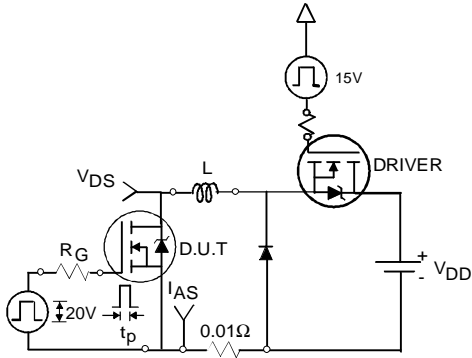

Fig 12a. Unclamped Inductive Test Circuit
| I _{AR} | Avalanche Current① | See Fig.12a, 12b, 14, 15 | A |
3. Equation below based on circuit and waveforms shown in Figures 12a, 12b.